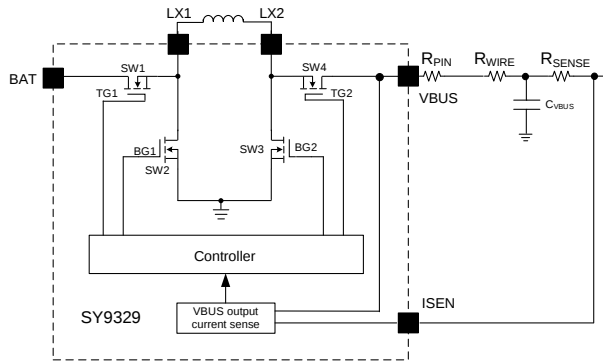

Fig5. Description of VBUS Output Current Limit
The SY9329 provides a function for VBUS output current limit by sensing the voltage drop between VBUS pin and ISEN pin (as shown in fig.5). Once the voltage difference ($V_{\text{VBUS}} - V_{\text{ISEN}}$) exceeds the voltage threshold, which can be configured by register 0x02[7:5], the internal control loop will regulate the output current by decreasing duty cycle until UVP or OTP is triggered. Noticing that the effects of R_{PIN} and R_{WIRE} cannot be ignored, the actual limit current I_{LIMIT} can be calculated as given in Equation (2):